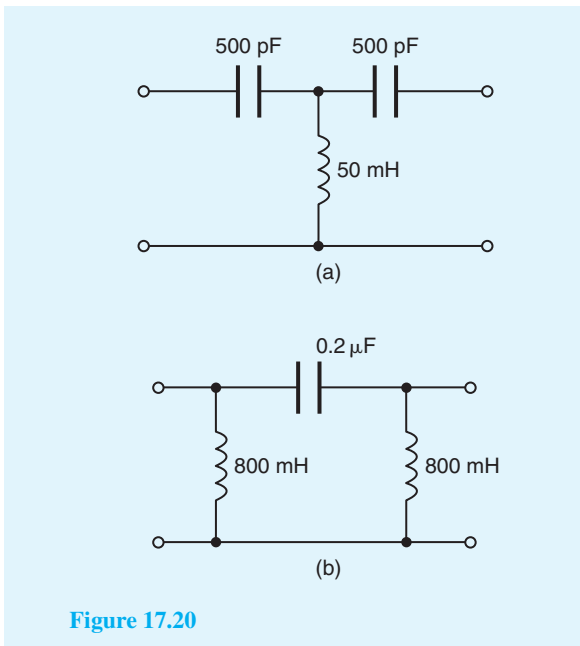

Figure 17.20
- Determine the cut-off frequency and the nominal impedance of each of the high-pass filter sections shown in Fig. 17.20.